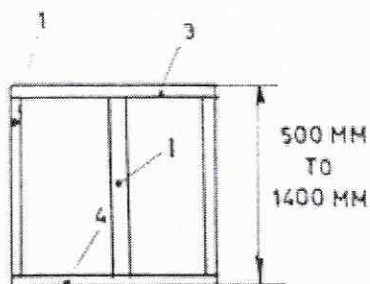

FIG : 7
- Size of upper and lower horizontal supports and vertical supports, shall be as per Table 4 refer figure 7, 8, 9 & 10 for the arrangement.